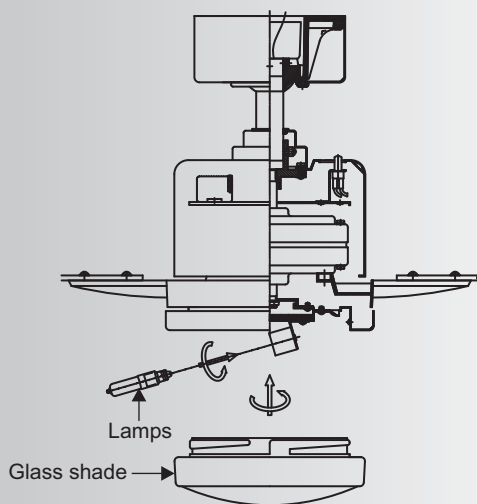

Fig. 19
Step 2. Raise the glass shade against the light kit and turn clockwise until snug, **DO NOT OVERTIGHTEN.** (Fig. 19)